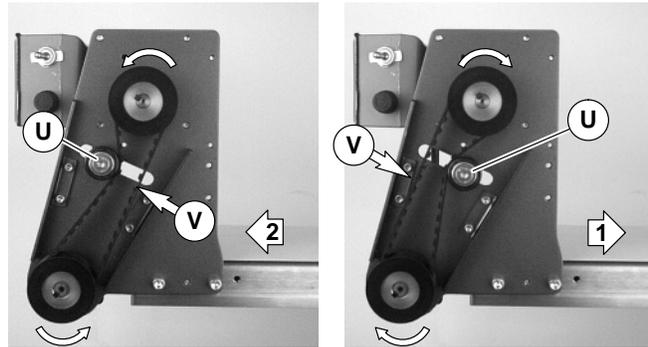

Figure 11
3. Depending on direction of conveyor belt travel (1 or 2 of Figure 11), position timing belt tensioner (U) as shown. Tension timing belt to obtain 1/8" (3 mm)
- Depending on direction of conveyor belt travel (1 or 2 of Figure 11), position timing belt tensioner (U) as shown. Tension timing belt to obtain 1/8" (3 mm) deflection for 1 lb (456 grams) of force at timing belt mid-point (V). Tighten tensioner screw to 106 in-lb (12 Nm).